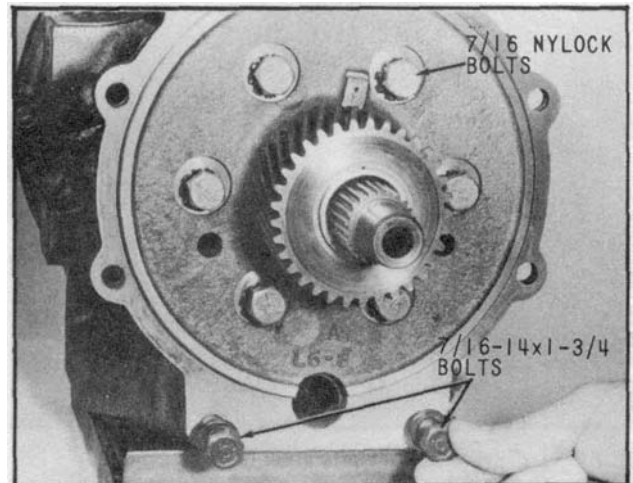

Fig. 19 Removing the Two 7/16 inch Bolts After Tightening the 6 Nylock Bolts
13. Install six NEW 7/16-14 x 1 nylock bolts and external tooth lockwashers shown in (Fig. 19). Tighten bolts evenly and torque to 42-50 pounds-foot.
14. Remove the two 7/16-14 x 1-3/4 hex head bolts, which were installed in step (6).